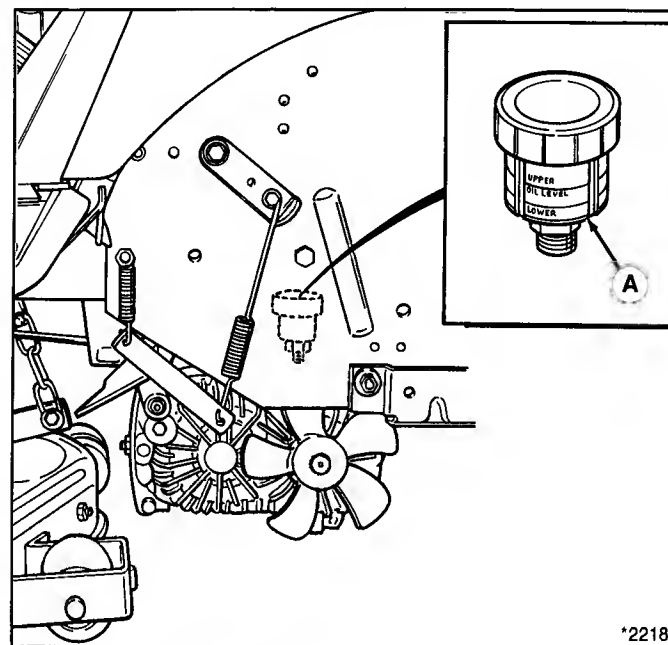

Figure 23. Hydrostatic Reservoir
2. The fluid level is visible in the reservoir (figure 23) without removing cap. The level should be between the two lines. If not, go to step 3.